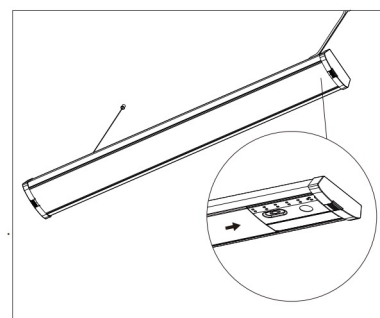

Figure 17
7. Attach the diffuser. See Figure 17 for reference.
- a. To install diffuser (B), start at one end of the lamp base and insert the diffuser slot onto the edge of the base. Gently squeeze the diffuser to engage the opposite side, then continue along the full length until it is fully installed.